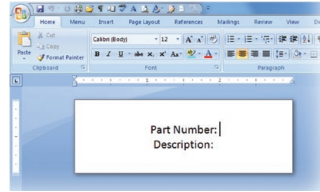

FIGURE 7 Word document ready to receive data from an Excel spreadsheet
E. Now open the Word template you want to import your Excel data into. In Figure 7 the static text “Part Number:” and “Description:” are already typed in. Now place your cursor where you want to insert your data.